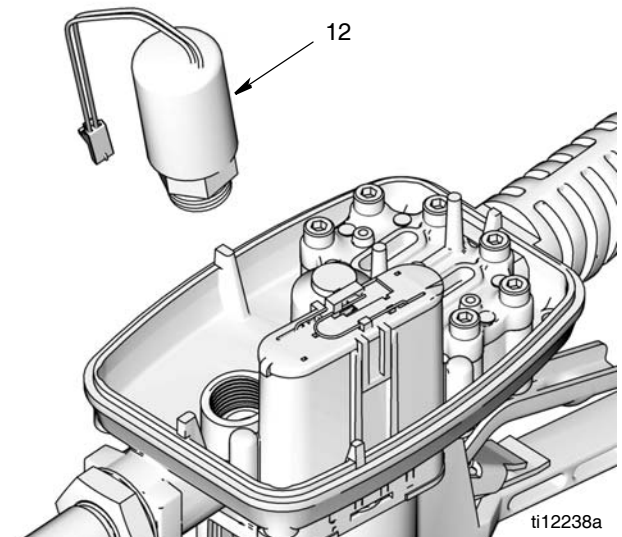

FIG. 37
- Unscrew solenoid (12) and remove from meter housing (FIG. 37). If necessary, a pliers can be used to loosen solenoid.